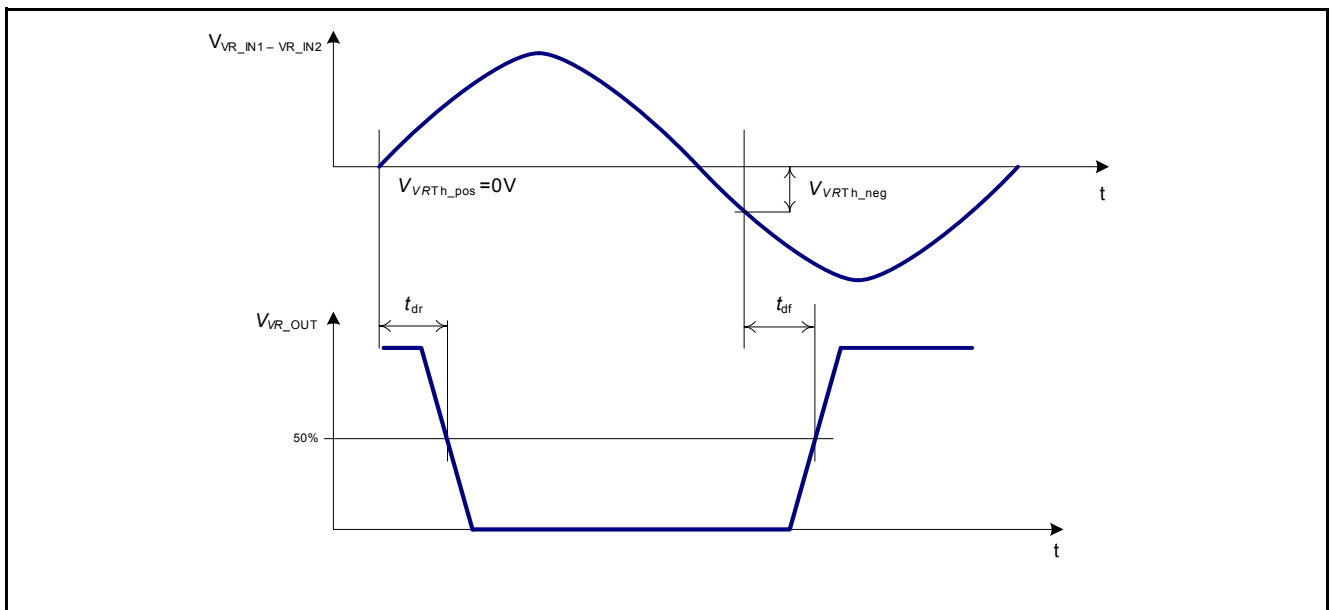

Figure 12 **Timing Characteristics of the VR Sensor Interface**
The variable reluctance (VR) sensor interface converts an output signal of a VR sensor into a logic level signal suited for μC 5V input ports. The voltage difference between the two input pins, **VR_IN1** and **VR_IN2**, which are connected to the two output pins of the VR sensor, is detected and the output pin **VR_OUT** is switched depending on the sign of the voltage difference (see Figure 12). The amplitude of the VR sensor signal is limited by an internal clamping circuit to avoid damage of the device due to over voltage caused by the VR sensor signal.